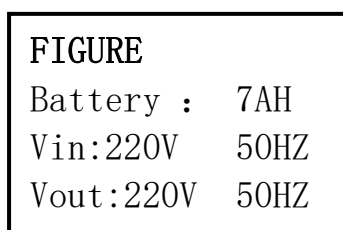

Fig.2: Basic status interface
- 2) Press ESC/ ◀ or ▶ button, it will change to the basic status interface, see Fig2 below